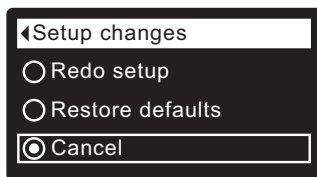

FIG. 33
1. From any of the rolling status screens, press the SELECT (O) button to display the **Main menu**.
3. Press the SELECT (O) button to display the Advanced settings menu.
5. Press the SELECT (O) button to display the Troubleshooting menu.
7. Press the SELECT (O) button to display the Setup changes menu (See Figure 33).
8. Press the RIGHT (►) button. The flashing padlock icon will disappear, as shown in Figure 33.
9. Press the SELECT (O) button.